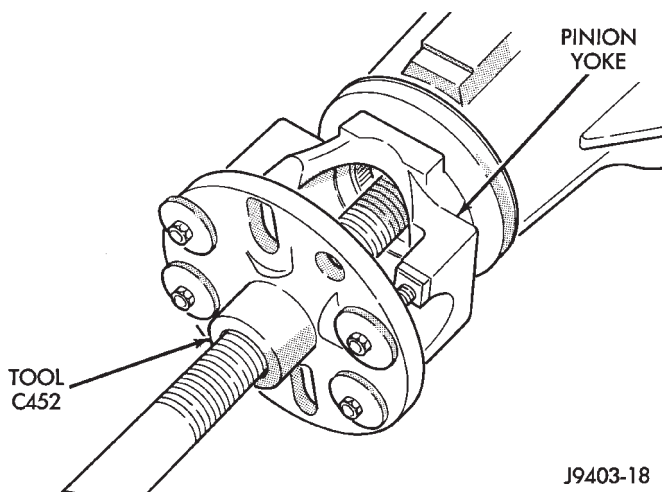

Fig. 6 Yoke Removal
- (1) Raise and support the vehicle.
- (2) Scribe a mark on the universal joint, pinion yoke, and pinion shaft for reference.
- (3) Disconnect the propeller shaft from the pinion yoke. Secure the propeller shaft in an upright position to prevent damage to the rear universal joint.
- (4) Remove the wheel and tire assemblies.
- (5) Remove the brake drums to prevent any drag. The drag may cause a false bearing preload torque measurement.
- (6) Rotate the pinion yoke three or four times.
- (7) Measure the amount of torque necessary to rotate the pinion gear with a (in. lbs.) dial-type torque wrench. Record the torque reading for installation reference.
- (8) Hold the yoke with Wrench 6719. Remove the pinion shaft nut and washer.
- (9) Remove the yoke with Remover C-452 (Fig. 6).